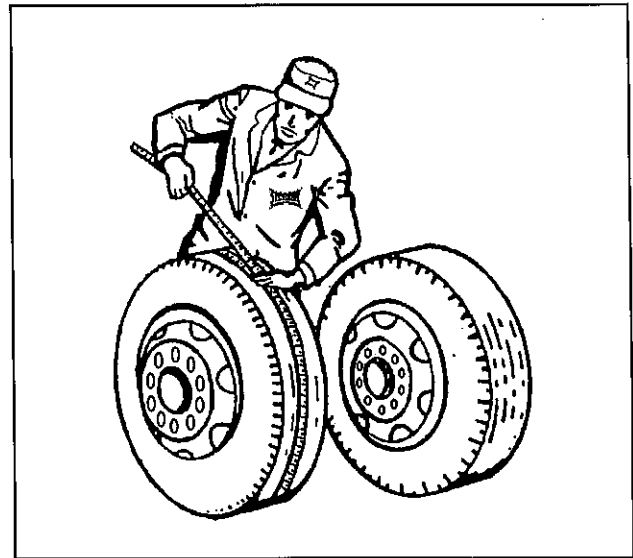

Figure 4-11 Tape Measuring Method
a. Tape Measuring Method.: Measure around each tire on the tread surface. A maximum difference of $3/4$ " is allowed between the two mating tires of a dual (See Figure 4-11).